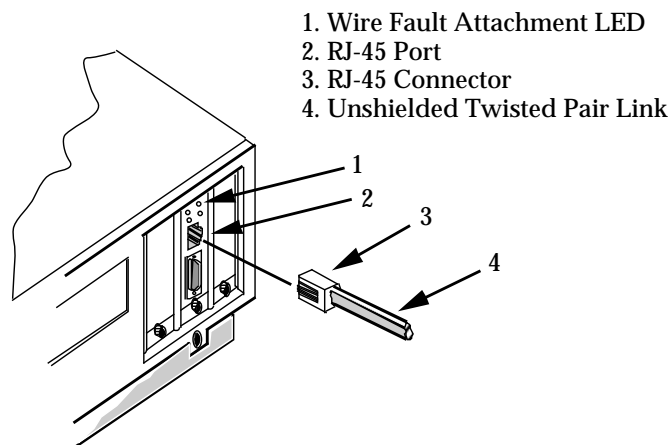

Figure 3-1. Attaching a UTP Segment
- Connect the twisted pair segment (4, Fig. 3-1) by inserting the RJ-45 connector (3) into the adapter's RJ-45 port (2).